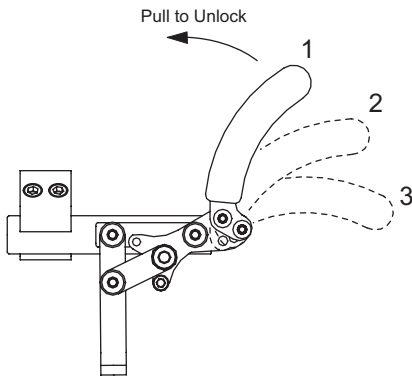

Figure 97
Six (6) handle positions are achievable using the Uni-Lock. See Figures 97 through 100. Each handle position can be used as either a Pull to Lock or a Push to Lock (see “Changing the Uni-Lock From the Push to the Pull Position” on page 72), resulting in 12 possible Uni-Lock setups.
Figures 97 through 100 show the handle in both the engaged (locked) and disengaged (unlocked) positions. Study the Figures to determine which handle configuration will work best for you. Follow the directions below to reconfigure your handle to the desired configuration.
4. Reposition the wheel lock handle to the desired Standard Handle Position 1, 2 or 3 (see Figures 97 and 98) and replace the Allen Screw and nut.